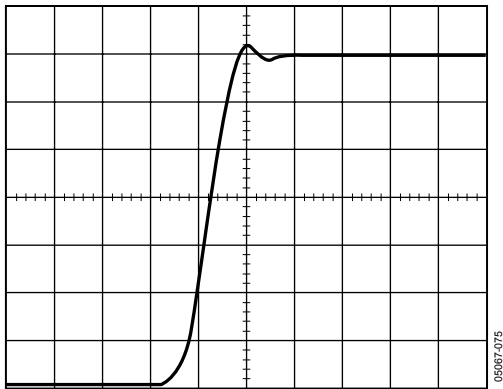
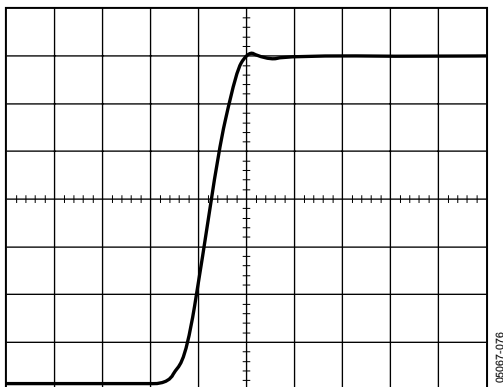

Figure 75. Input Signal to Adaptive Filter Control
Figure 76. Output Signal after Adaptive Filter Control
Figure 75 and Figure 76 show typical signals to be processed by the adaptive filter control block.
The register settings in Table 35 were used to obtain the results shown in Figure 76, i.e., to remove the ringing on the Y signal. Input data was generated by an external signal source.
**Table 35. Register Settings for Figure 76**